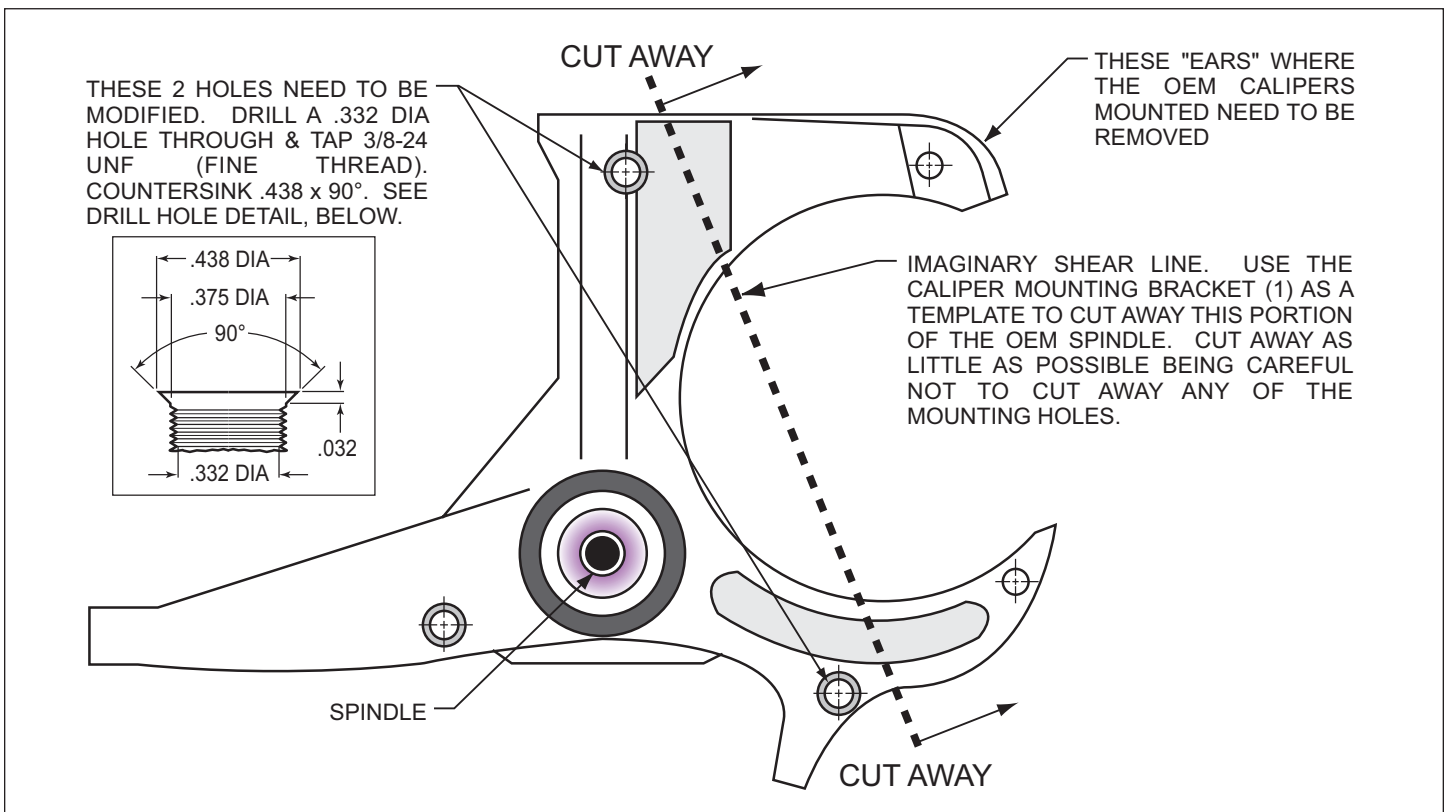
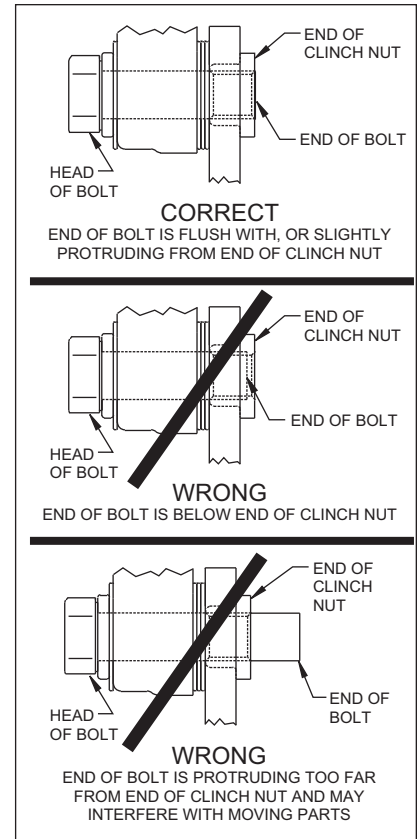

Figure 1. Steering Arm / Spindle Modifications
Figure 4.
These modifications should be performed by a qualified machinist. Refer to Figure 1 on the following page as necessary (numbers in parenthesis refer to the parts list on page three). Only one view of the steering arm/spindle is shown, but the modifications need to be performed on both steering arm/spindles.
- Apply red *Loctite*® 271 to bolt threads (2) before assembly of the caliper bracket (1) to backing plate face of spindle. Position the caliper mounting bracket (1) onto the spindle while positioning spacers (3) between bracket and spindle face. Slip the mounting bolts (2) into the threaded spindle holes, finger tighten. Torque two bolts (2) to 30 ft-lb. **NOTE:** Be sure the heads of the caliper bracket (1) insert nuts are facing outward toward the wheel.
- Install five new wheel studs (4) into the hub (5). Torque to 77 ft-lb. **NOTE:** There are two five lug patterns in the hub (5 x 4.50 and 5 x 4.75). Make sure of the correct hole pattern for the correct wheel application before installing studs into hub.
- Pack the large inner bearing cone (6) with high temperature disc brake bearing grease (available from your local auto parts store) and install into the backside of the hub (5).
- Install the grease seal (7) by pressing into the backside of the hub (5).
- Orient the rotor (9) and the rotor adapter (8) as shown in Figure 1. Attach the rotor to the adapter using bolts (10). Using an alternating sequence, apply red *Loctite*® 271 to the threads, and torque to 25 ft-lb.
- Mount the adapter/rotor assembly (8/9) to the hub (5) using bolts (11), as shown in Figure 1. Using an alternating sequence, apply red *Loctite*® 271 to the threads, and torque to 55 ft-lb.
- Pack the small outer bearing cone (12) with high temperature disc brake bearing grease and install into front of hub (5). Slide the hub/rotor assembly (5 and 9) with outer bearing cone (12) onto the spindle. Secure using supplied washer (13), original adjusting nut and nut locking device.
- Install the dust cap (15) onto the hub (5). Friction created by the o-ring (14) on the dust cap (15) keeps it from unscrewing. The O.D. of the existing spindle washer may be larger than the I.D. of the dust cap (15) not allowing it to seat against the hub face. Therefore, use the spindle washer (13) supplied with the kit instead of the stock washer.
- NOTE:** Please reference the caution statement at the beginning of the assembly instructions. Mount the caliper (16) onto the caliper mounting bracket (1) using washers (17) and bolts (18) positioned between caliper (16) and the caliper mounting bracket (1). Finger tighten. View the rotor (9) through the top opening of the caliper (16). The rotor (9) should be aligned in the center of the caliper (16). If not, adjust the caliper (16) by using 0.032 inch thick shims (19) placed between the caliper mounting bracket (1) and the caliper (16). Add as many shim washers (19) as necessary to achieve the correct alignment. Finger tighten and recheck alignment, adjust as necessary. **NOTE:** The end of the bolt must be flush with or slightly protruding from the head of the clinch nut. See Figure 4. Place spare shims (19) between washer and caliper mounting ear to achieve the proper mounting fastener configuration. Always use the same amount of shims on both the top and bottom caliper mounting bolts (18). Apply red *Loctite*® 271 to bolt threads (18) and torque to 40 ft-lb.
- Install the disc brake pads (20) into the caliper (16). Secure the disc brake pads to the caliper utilizing cotter pin (21).